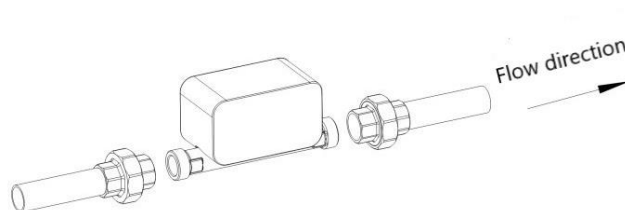

Figure 5-2-2 Meter Mounting Diagrammatic Sketch
- 2) Align the meter and pipe concentrically. Screw the union on the meter's connecting threads and then tighten up with a spanner (Figure 5-2-2).